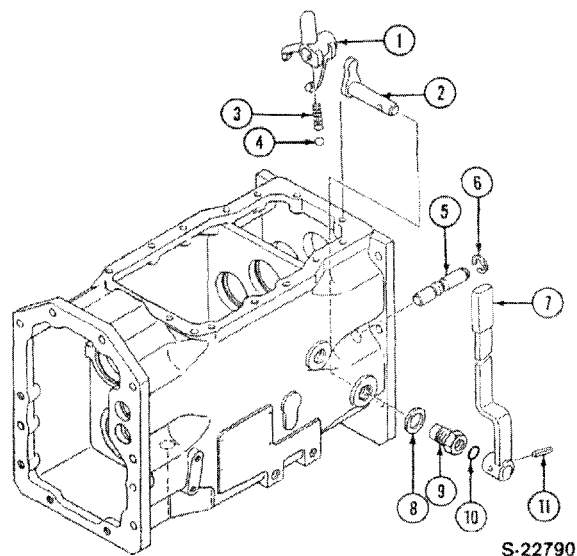

Figure 25
Reference — Figure 25
1. Drive the roll pin (11), Figure 25, out of the lever (7) and remove the lever.
2. Remove the shift rod (5) from the rear.
3. Install the shift rod and fork with detent spring and ball as shown, Figure 25.